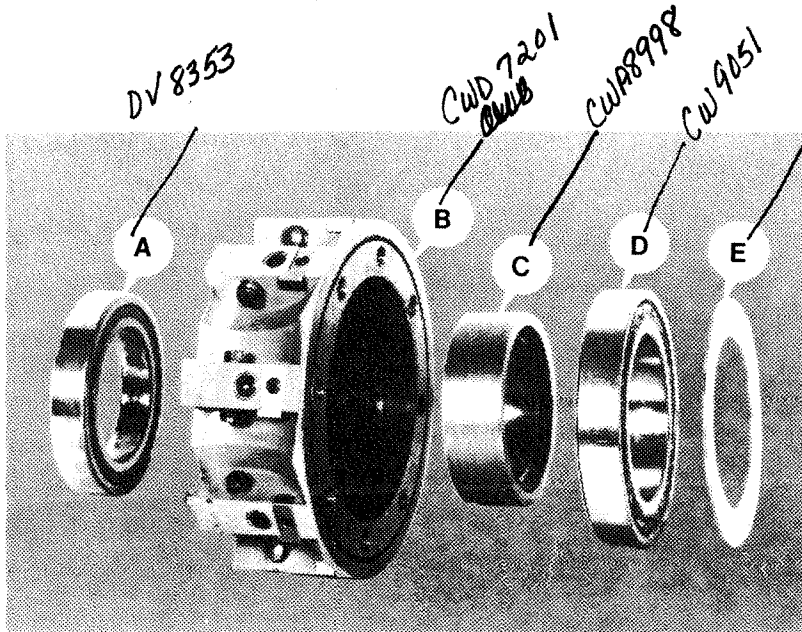
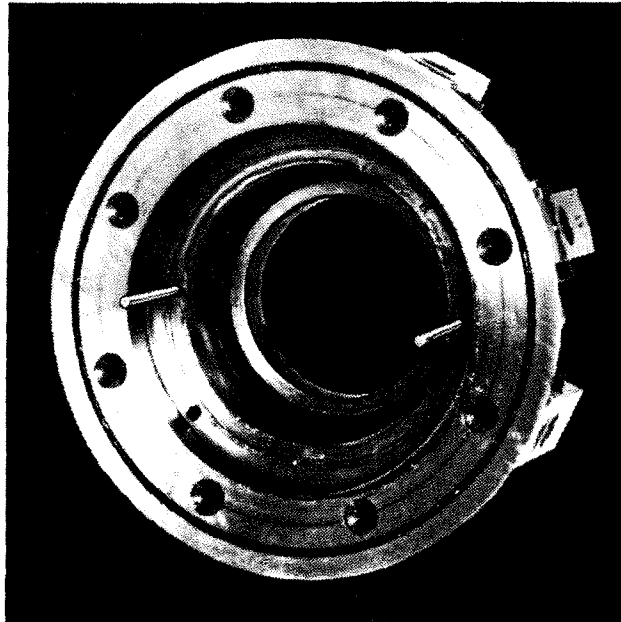

Figure 2.24 - Turret Body and Components
Figure 2.27 - Knockout Holes for Upper Bearing
18. Remove bearing shield "E", Figure 2.24 .
20. Remove spacer "C", Figure 2.24 .
21. Remove upper bearing "A", Figure 2.24, by alternately tapping pins as shown in Figure 2.27 .
Line up the marks on bearing "D", Figure 2.24, indicating the bearing high points on the inner and outer races with station number one on the turret body.
3. Replace bearing "D" in turret body "B", Figure 2.24 .